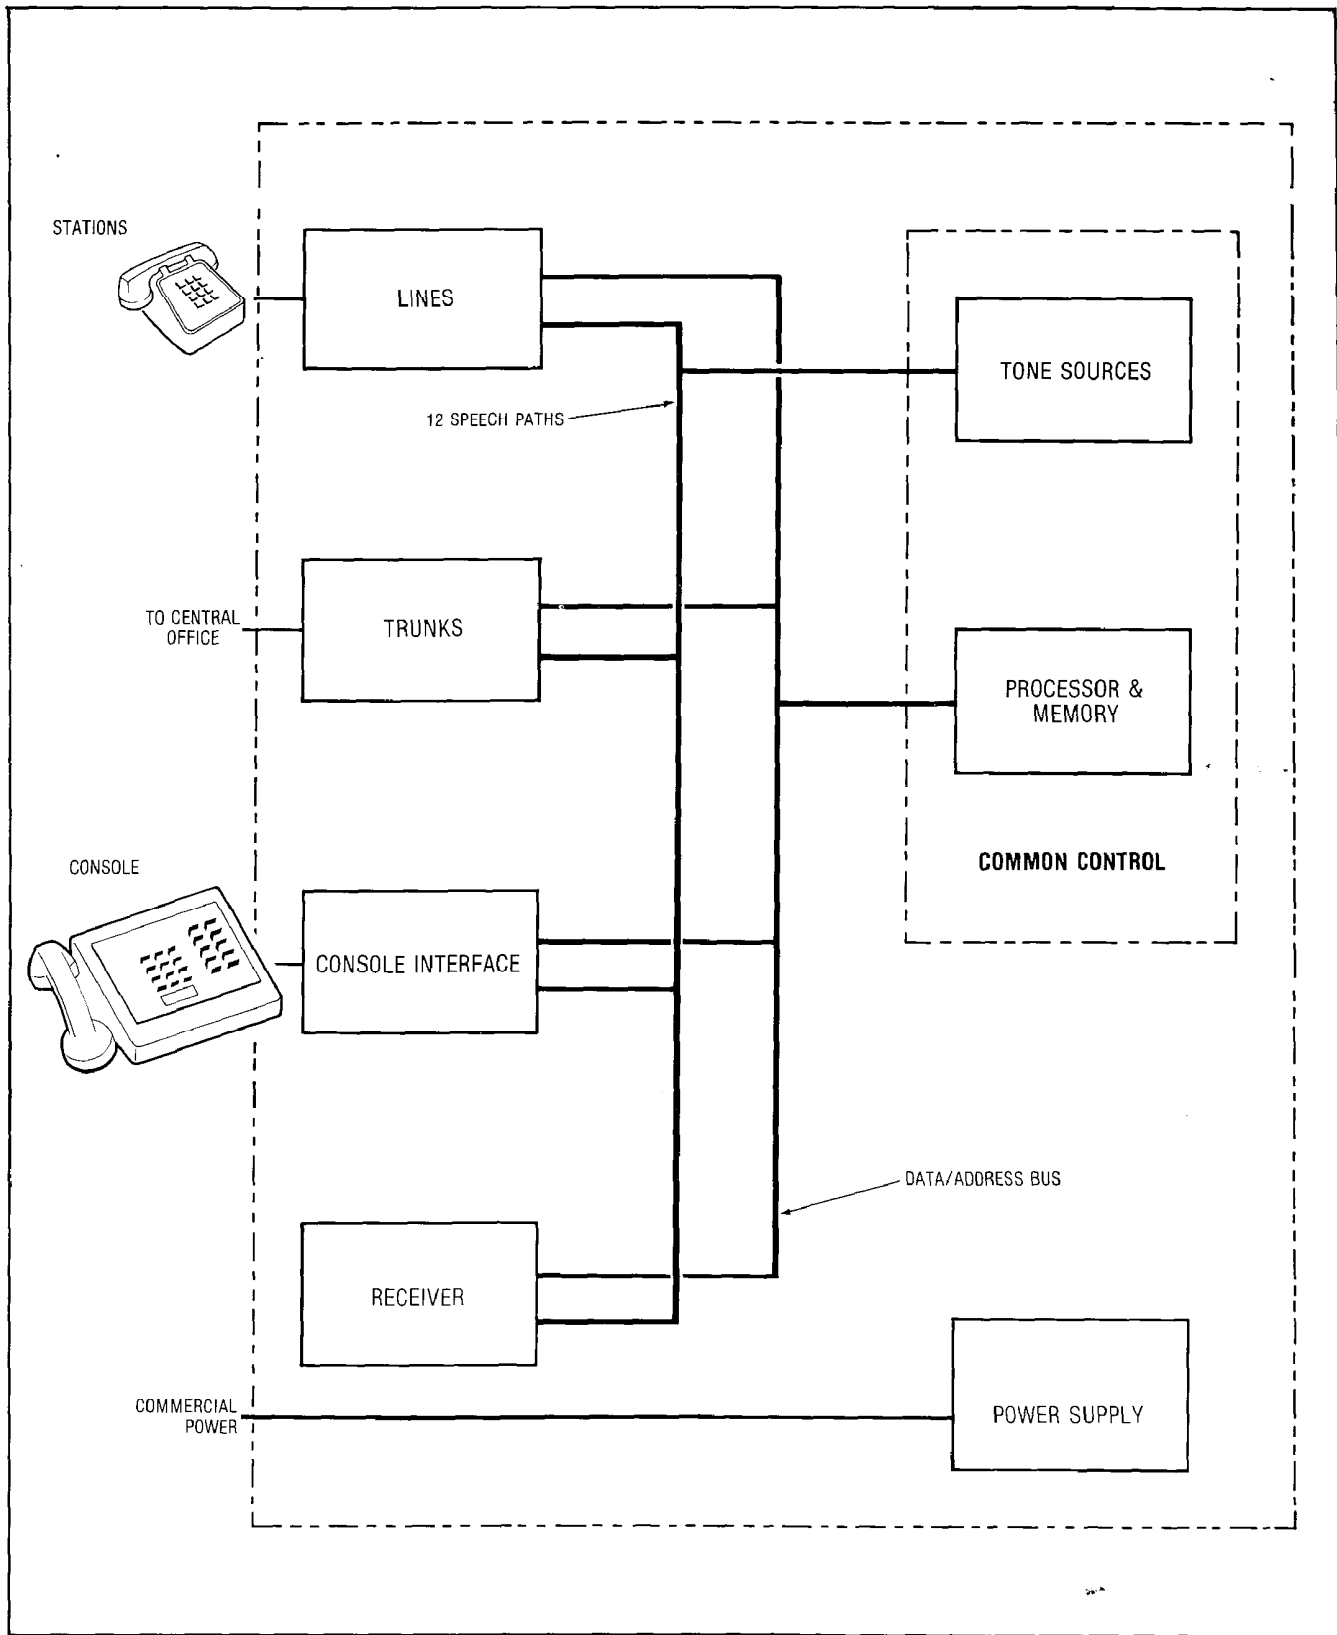

Fig. 6-1 SX-20 Block Diagram
- 6.01 The SX-20 is a solid-state communications system employing space division switching and microprocessor control of call processing. A block diagram of the SX-20 is shown in Fig. 6-1.